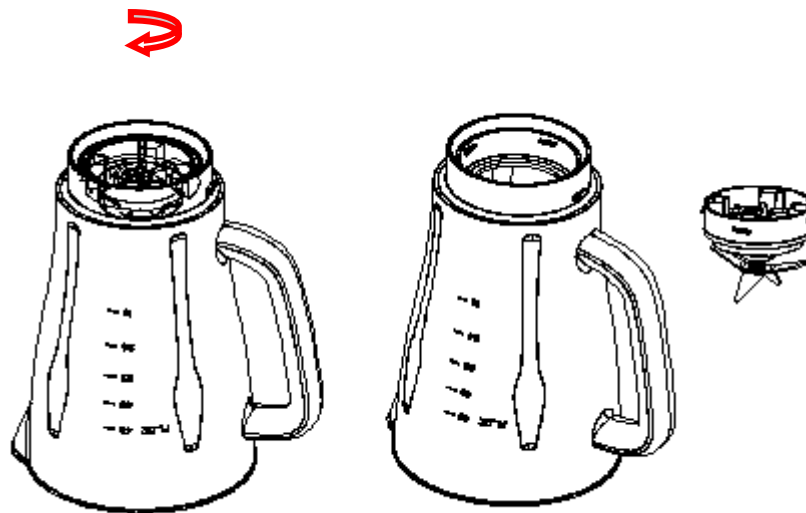

Fig.8
4. Dismantle all detachable parts. Lift the jar assembly off the motor unit, To detach the blade assembly by turning it clockwise from the jar base bottom , and remove the seal ring 2 and blade assembly (see fig.8). In addition, detach the jar cover seal ring 1 from the jar cover.